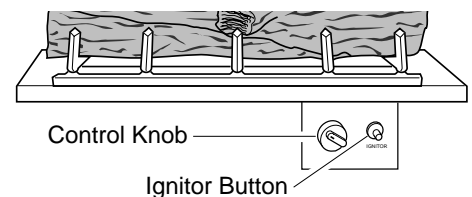

Figure 42 - Control Knob and Ignitor Button Location
- Wait five (5) minutes to clear out any gas. Then smell for gas, including near the floor. If you smell gas, **STOP!** Follow "B" in the safety information above. If you don't smell gas, go to the next step.
- Slightly depress and turn control knob counterclockwise to the PILOT position. Press in control knob for five (5) seconds (see Figure 42).